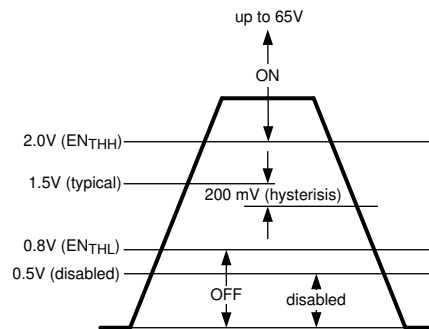

Figure 24. Enable Function Threshold Levels
The LM5060 Enable pin (EN) allows for remote On/Off control. The Enable pin on/off thresholds are CMOS compatible. The external N-Channel MOSFET can be remotely switched Off by forcing the EN pin below the lower input threshold, EN_{THL} (800 mV). The external N-Channel MOSFET can be remotely switched On by forcing the EN pin above the upper input threshold, EN_{THH} (2.00 V). Figure 24 shows the threshold levels of the Enable pin.